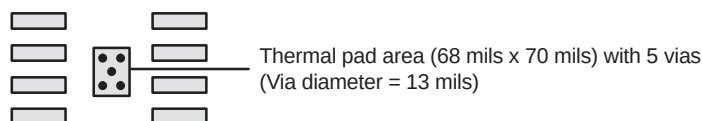

图 65. PowerPAD™ PCB Etch and Via Pattern
1. Prepare the PCB with a top-side etch pattern as shown in 图 65. There must be etch for the leads as well as etch for the thermal pad.